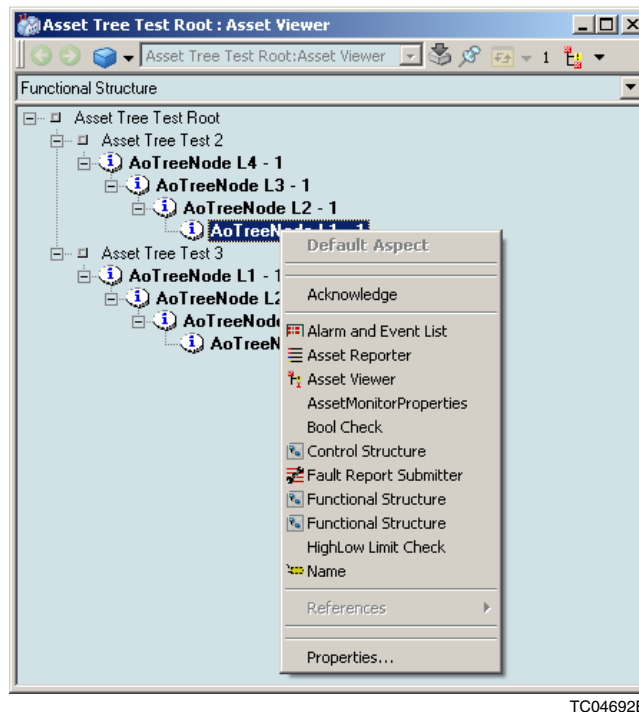

Figure 10. Asset Tree Context Menu
4. Right-click on the desired object in the Asset Tree to produce a context menu in a view such as the one shown in Figure 10.
- a. The items in the top portion are called verbs and are actions that can be taken. For instance, in the example shown in Figure 10, the operator can acknowledge the alarm.
- b. The items in the bottom portion are items directly associated with the selected asset in the Asset Tree. For instance, in the example shown in Figure 10, the operator can submit a Fault Report for the selected asset, look at other aspects associated with that asset, etc. Not shown in the